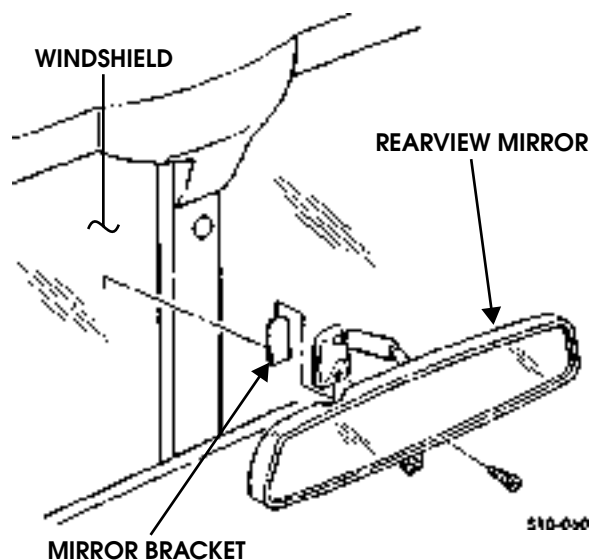

Figure 10-59: Rearview Mirror
1. Remove screw and rearview mirror from mirror bracket (Figure 10-59).
1. Secure mirror bracket to windshield with quick-drying epoxy. Allow to dry (Figure 10-59).